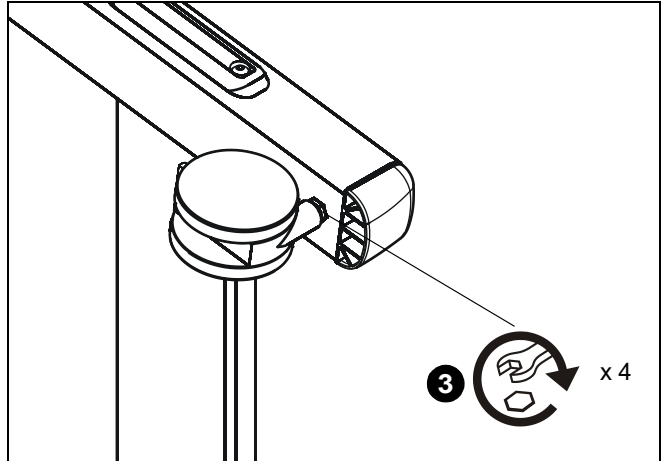

Figure 25
3. Check and tighten the hex nuts on the casters occasionally. (See Figure 25) These should be checked especially after use on uneven ground.